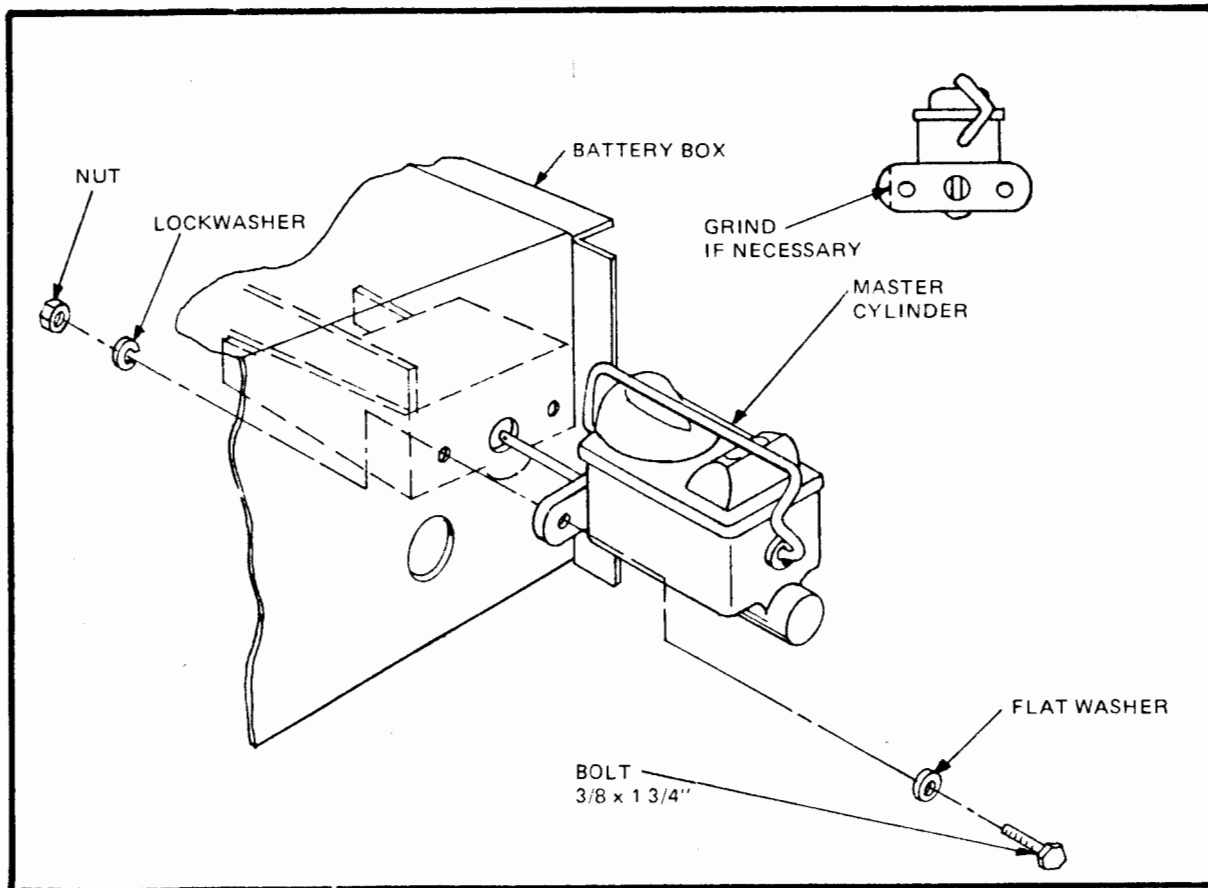

Figure 19
- Remove accelerator cable bracket from engine. Remove rubber boot from around master cylinder push rod. Insert unit into hole on the front of the battery box and into the frame. Grind down outside edge of master cylinder to clear battery box, if necessary. Secure with 3/8 x 1 3/4" bolts with flat washer, lock washer and nut. Reinstall boot over pushrod. (Figure 19)